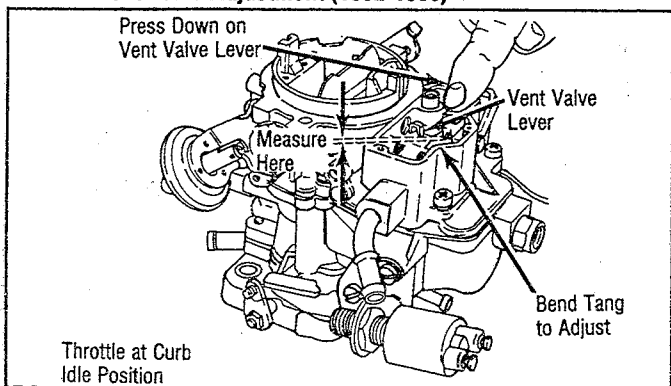

Fig. 4 Bowl Vent Valve Adjustment
- Place throttle lever in curb idle position. Press down on vent valve lever at spring seat. See Fig. 4.